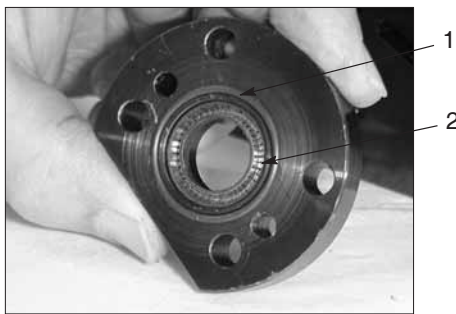

Figure 7-103 Replacing the pump packing O-ring and spring seal
2. See Figure 7-103. Replace the pump packing O-ring and spring seal; then use an M5 hex wrench to install the assembly on the applicator. Tighten the screws until they are snug.